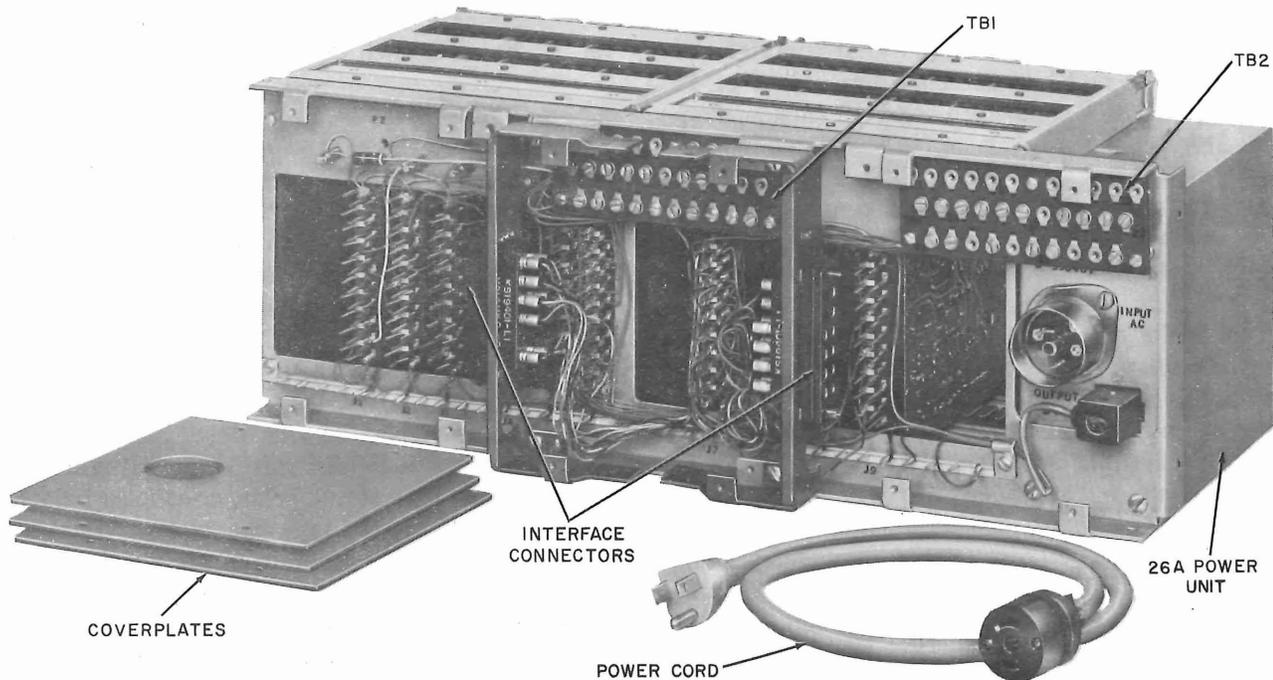

Fig. 2—Data Set 303-Type—Rear View
**2.03** The rear of DS 303-type (Fig. 2) has coverplates covering the wiring. These plates are removable to enable the installer to install the set or to change the strapping options. Refer to Section 593-800-200.